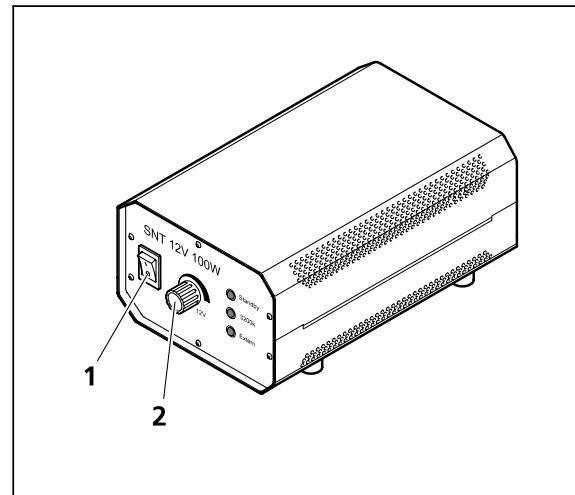

Fig. 4-10 External auxiliary power supply unit for HAL 100
(2) Instrumentation
(3) Adjusting the reflected light/bright field
- Switch on halogen lamp HAL 100 on the separate auxiliary power supply unit (Fig. 4-10/1).
- Adjust light intensity with the control button on the auxiliary power supply unit (Fig. 4-10/2).